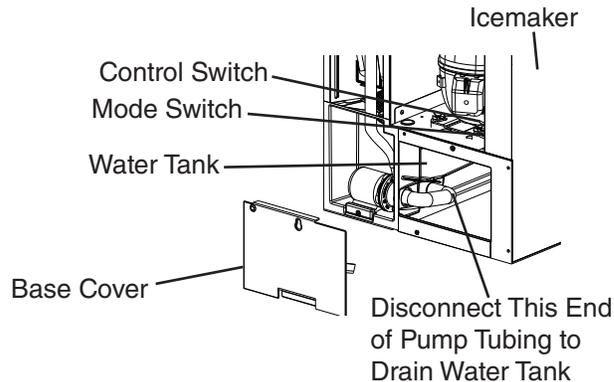

Fig. 13
- 14a)(1) For **KM-322_522_622MAK** - Remove the front insulation panel, then disconnect the water tank pump tubing located behind the base cover. See Fig. 13. Allow the water tank to drain.